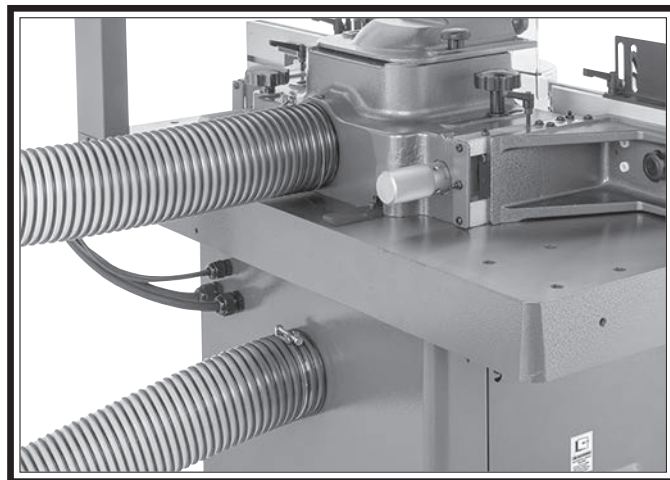

Figure 23. Example of dust hoses attached to ports.
1. Fit 4" dust hose connected to dust collector over each dust port and secure each in place with hose clamp (see **Figure 23**).